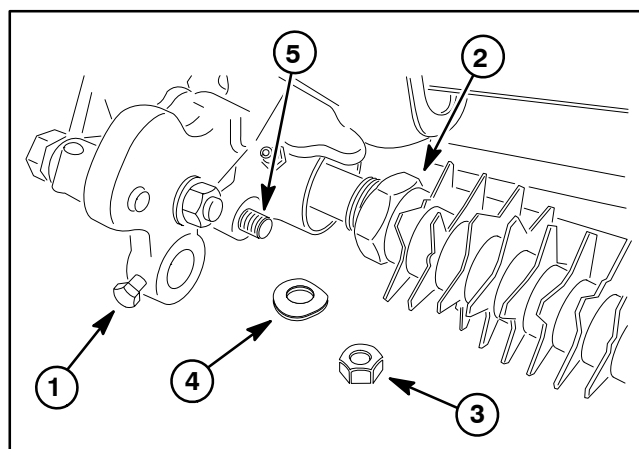

Figure 8
4. Remove groomer drive cover (item 2) and groomer drive belt (item 3) from groomer drive (see Groomer Belt Replacement in this section).
5. Loosen cap screws (item 10) that secure front roller shaft to groomer arms.
6. Remove lock nut (item 13) and spring washer (item 12) that secure RH groomer arm lift rod to RH drive plate assembly. Location of these items are shown in Figure 8.
7. Remove lock nut (item 21), special washer (item 16) and plow bolt (item 22) that secure RH groomer arm assembly to RH drive plate assembly. Do not change height-of-cut screw adjustment. Remove RH groomer arm assembly from cutting unit.
**NOTE:** To prevent grooming reel shaft from turning when removing driven pulley (item 19), use wrench on shaft flats to hold shaft.
9. Remove the lock nut (item 1) that secures driven pulley (item 19) to grooming reel shaft. Remove driven pulley from shaft.
**NOTE:** To prevent cutting reel from turning when removing drive pulley (item 4), block reel with piece of wood.
10. Loosen and remove drive pulley (item 4) from the cutting reel shaft.
11. Remove two (2) shoulder bolts (item 5) that secure the RH drive plate assembly to the cutting unit frame. Remove the groomer drive plate assembly from grooming shaft and cutting unit. Locate and retrieve groomer shim (item 8).